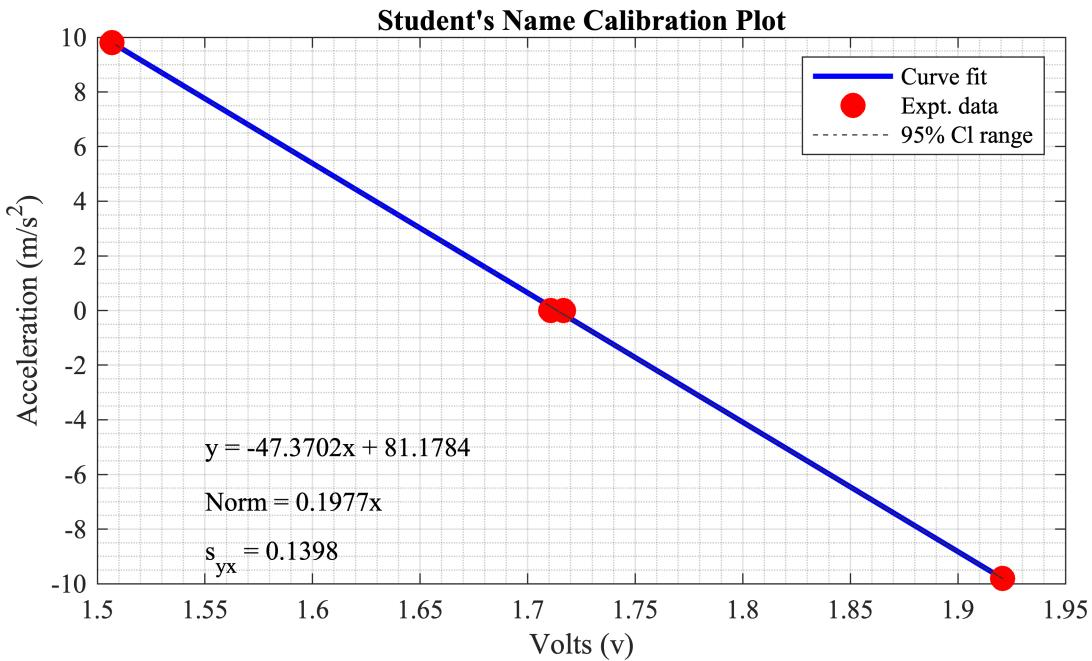

Figure 3: Calibration of the accelerometer.
- For this experiment, a 3-axis accelerometer has been fixed to the end of the pendulum apparatus (see Figure 2). The accelerometer has been configured for $\pm 6g$ operation. The y- axis of the pendulum points towards the pendulum rotation axis (see Figure 3). For more information about the accelerometer, see Pololu.
- Connect the accelerometer to the breadboard using the provided 3-wire cable. See figure 3(a).
- Connect the V_{in} and GND pins on the accelerometer to the breadboard 5 Volt supply power (already used to power the potentiometer). See figure 3(b) for reference.
- Connect the y-axis accelerometer output to AI1 (Differential Analog Input 1). See figure 3(b).
- Connect the DAQ GND, instead of the AI1-, to the ground on the breadboard. See figure 3(b).
- Reference figure 3 for proper figure creation.